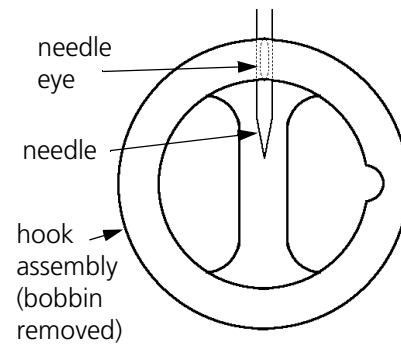

Figure 4-7
32. Look directly into the hook assembly and check the location of the needle's eye compared to Figure 4-7. The eye should be just out of view from the bobbin opening. Therefore, none of the needle's eye should be visible.